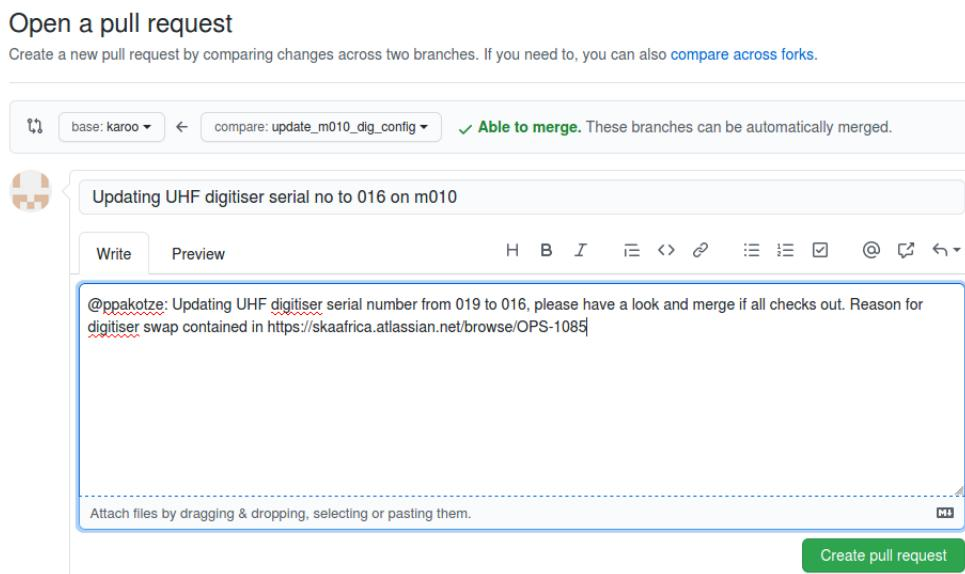

Figure 12.7: Receiver model github pull request
- Make sure “base: karoo” and “compare: Rx(L or U)\_xxxx” is selected. Then write a comment stating what you are doing, why (give Jira number if applicable) and make the request out to Pieter Kotze. See **Figure 12.7** for an example: